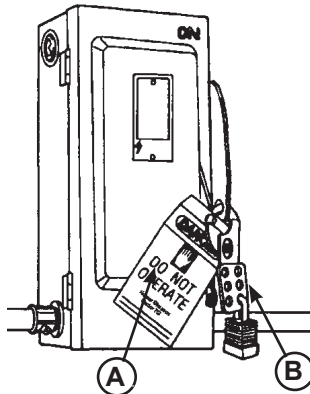

Figure 21
When working with electrical or electronic controls, make sure that the power source has been tagged (A) and locked out (B) according to OSHA regulations and approved local electrical codes (see Figure 21).